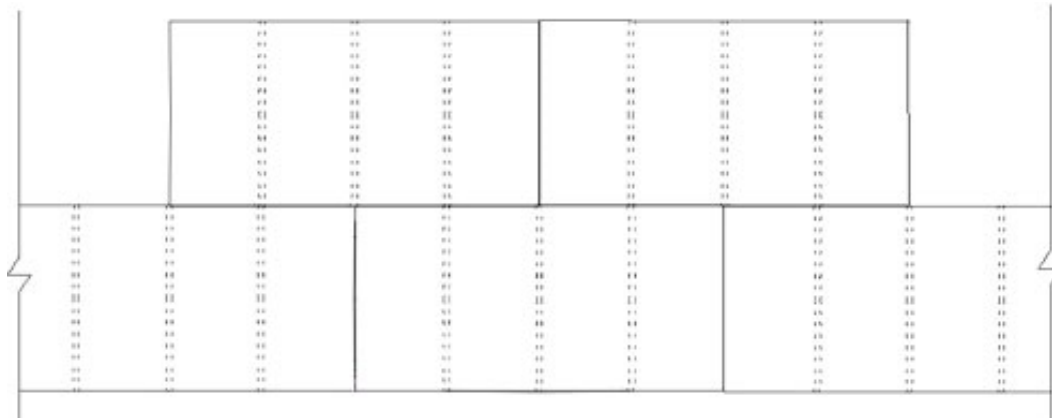

Fig. 28
- vi. Install subsequent rows of insulation board in a running bond pattern (vertical joints staggered) as shown in Figure 28.